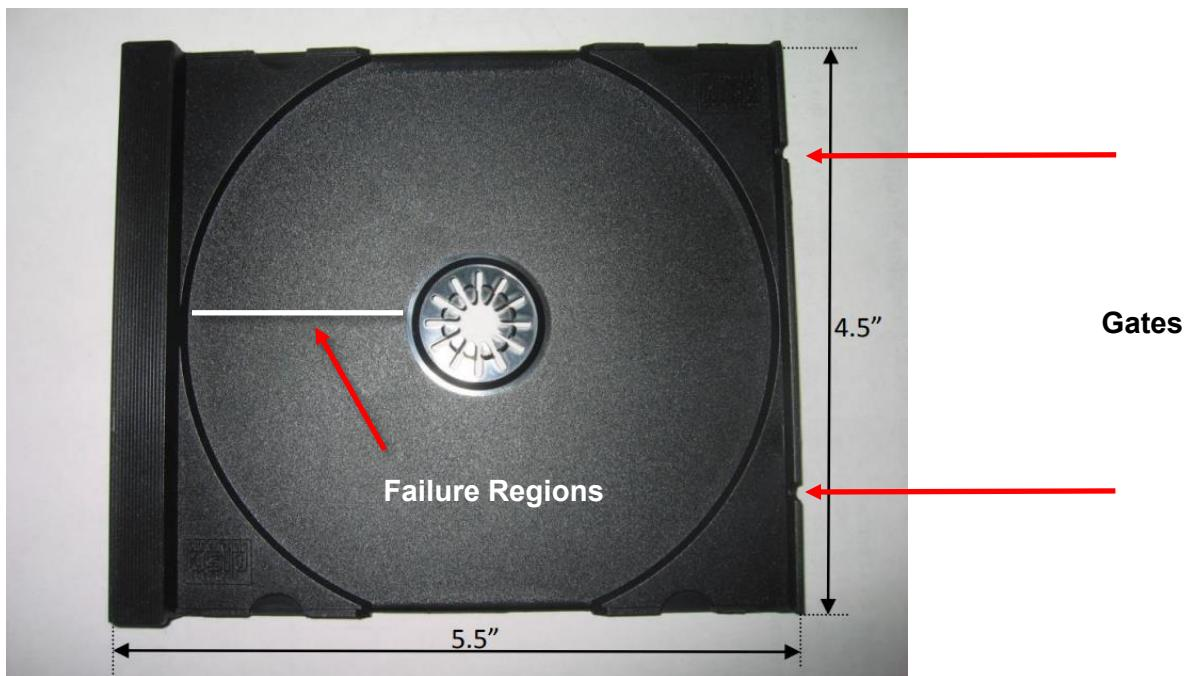

Figure 4. CD case failure regions.
c) The company is having problems with case breaking in the locations shown in **Figure 4**. Why are the cases breaking here? It may be helpful to use a sketch to show your reasoning. **(3 pts)**